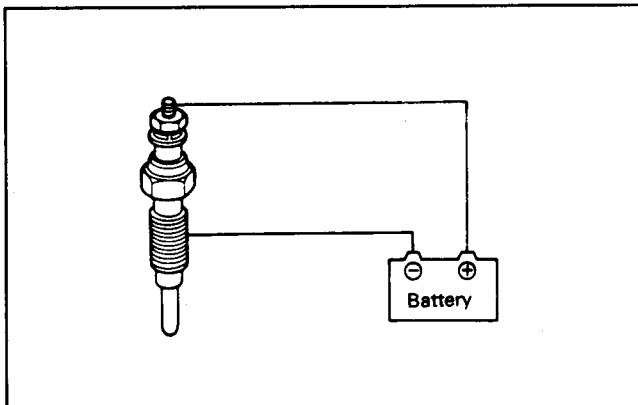

Figure 29
4. Connect the positive (+) battery terminal to the glow plug terminal, and the negative (-) battery terminal to the plug body (Fig. 29). If the glow plug glows red-hot, the glow plug is operating correctly.